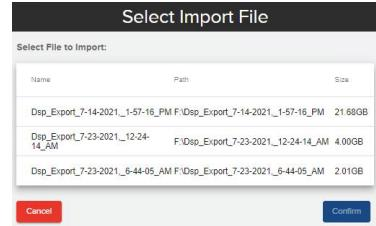

Figure 66: Select Import File window
5. The system will display all GeoMx files found on the selected drive. Highlight the desired file and click **Select**, then **Confirm** (see Figure 66).